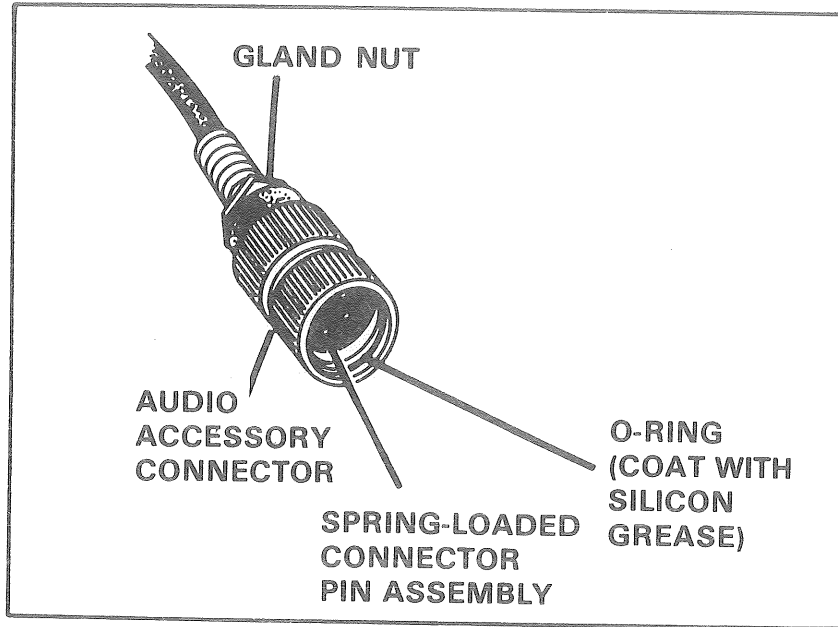

Figure 2. Detail of audio accessory connector.
- a. Put a light coat of silicone grease on the "O" rings in the cable connectors (fig 2).
- (1) Tighten gland nut, if provided (fig 2).
- (2) Properly position and tighten spring-loaded connector pin assembly (fig 2).
- (3) Identify any of the three small keys that are broken (fig 2).